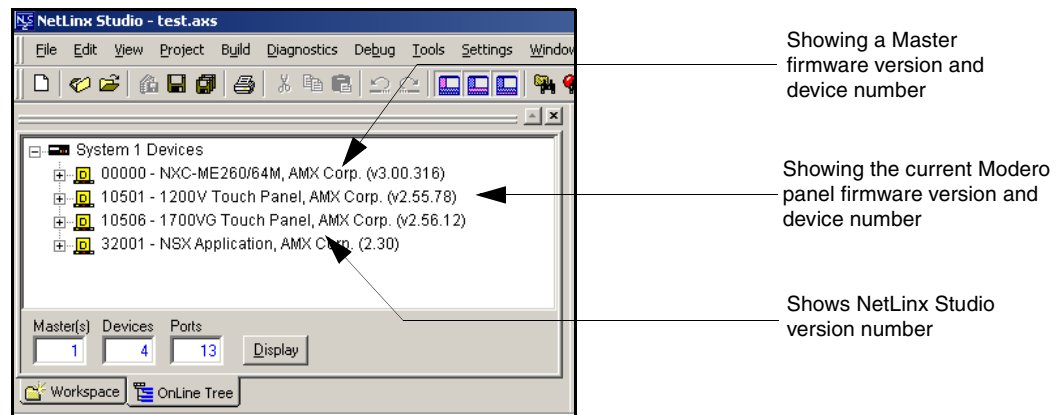

FIG. 97 NetLinx Workspace window (showing connected Modero panel)
- After the Communication Verification dialog window verifies active communication between the PC and the Master, verify the panel appears in the **OnLine Tree** tab of the Workspace window (FIG. 97). *The default Modero panel value is 10001.*